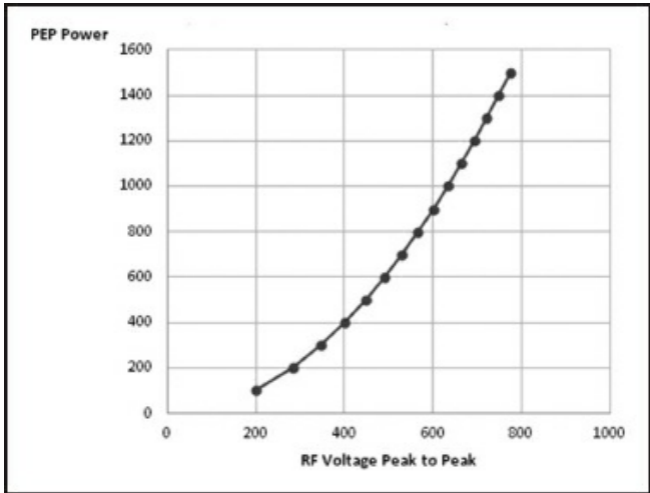

Figure 7.24 — Measured RF voltage versus peak envelope power.
**Figure 7.24** is a plot of PEP versus measured peak-to-peak voltage into a  $50 \Omega$  load.